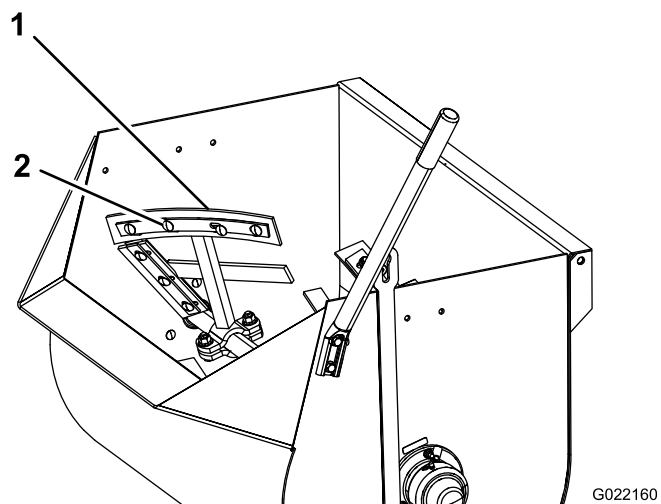

Figure 29
3. Loosen the nuts and bolts that secure the paddle blades to the paddles (Figure 29).